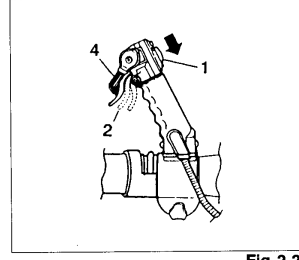

Fig. 2-2C
- Move throttle lever to a half-open position (2) and lock it with lock lever (4) (if so equipped), when it is hard to start engine. (Fig. 2-2C)